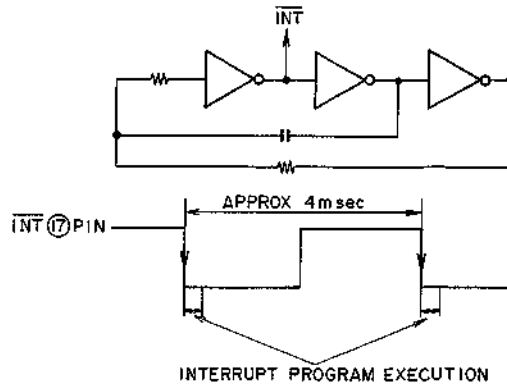

Fig. 11 \overline{INT} Signal Oscillator and Waveform
The waveform shown in Fig. 11 is applied to pin (17) of terminal \overline{INT} from the oscillator circuit of IC6. As terminal \overline{INT} falls from "H" to "L", the CPU interrupts execution of the main program and changes to the interrupt processing routine. Since the waveform applied to \overline{INT} rises and falls in intervals of approximate 4 msec (250 times per second), the interrupt processing routine runs regularly in the same intervals.